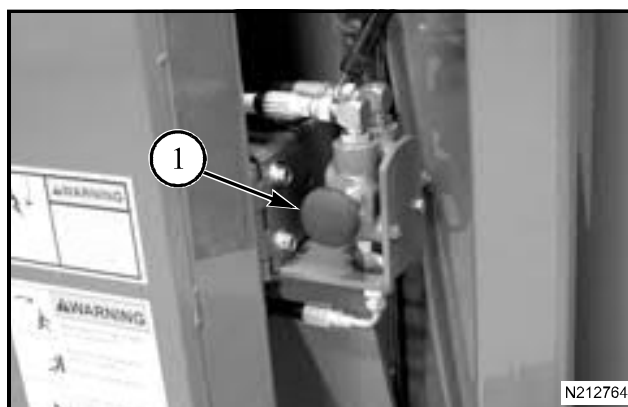

FIG. 4
FIG. 4: When the tailgate is raised for any maintenance or service work, push the lockout valve (1) into the LOCKED position to prevent the tailgate from being lowered. The tailgate can only be lowered when the tailgate lockout valve is released (pulled out).